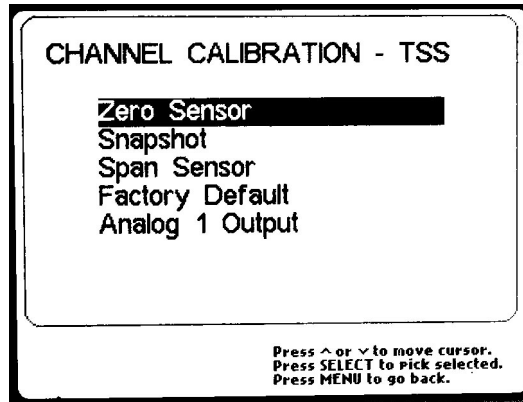

Figure 30 - Channel Calibration - TSS Menu
3. On the CHANNEL CALIBRATION – TSS menu screen (Figure 30), the ZERO SENSOR option should already be highlighted. Press the SELECT key again.
3. From the CHANNEL CALIBRATION – TSS screen (Figure 30), press the down arrow key once to highlight the SNAPSHOT menu item. Press the SELECT key again.
3. From the CHANNEL CALIBRATION – TSS screen (Figure 30), press the down arrow key twice to highlight the SPAN SENSOR menu item. Press the SELECT key.
1. From the above SS calibration procedures, perform steps 1 and 2 to navigate to the CHANNEL CALIBRATION – TSS menu screen (Figure 30).